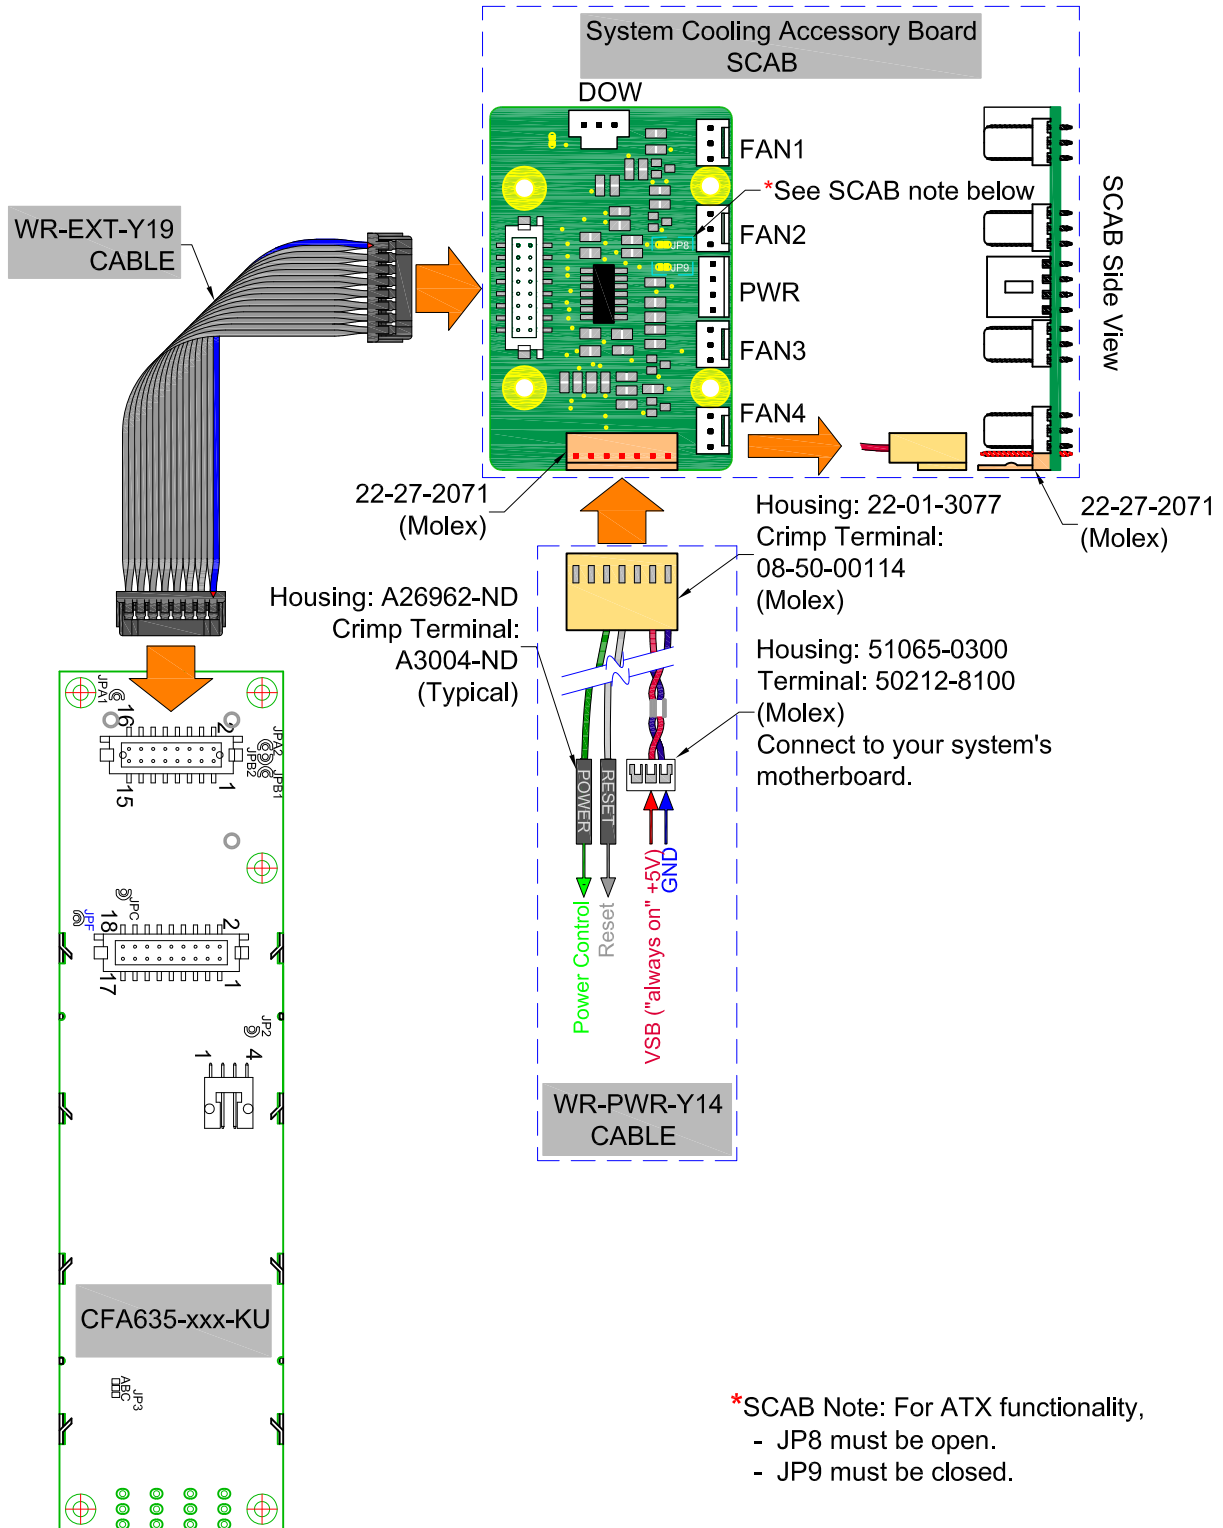

Figure 5. ATX Power Supply and Control Connections Using CrystalFontz Optional SCAB
*SCAB's JP8 must be open and JP9 must be closed. For quick reference of location, see Figure 5. on Pg. 23 . For details, see the SCAB Data Sheet on www.crystalfontz.com/product/SCAB.html#docs .